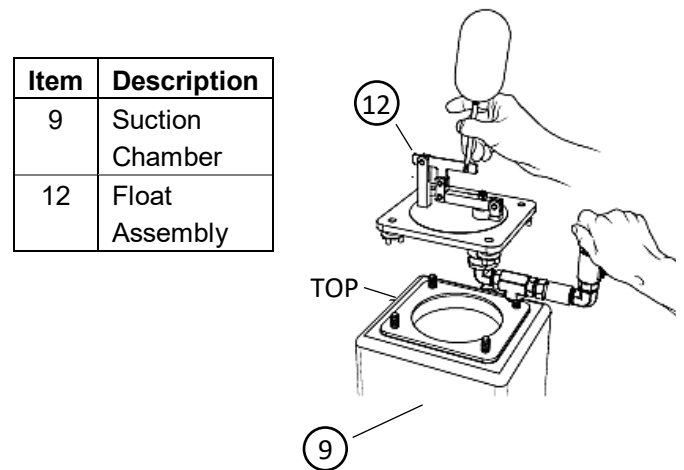

Figure 6-H. Float Assembly Removal
3. Measure the gap between points “A” and “B” as shown in Figure 6-J. This is done with the float causing the rubber bumper to rest lightly against the seat.